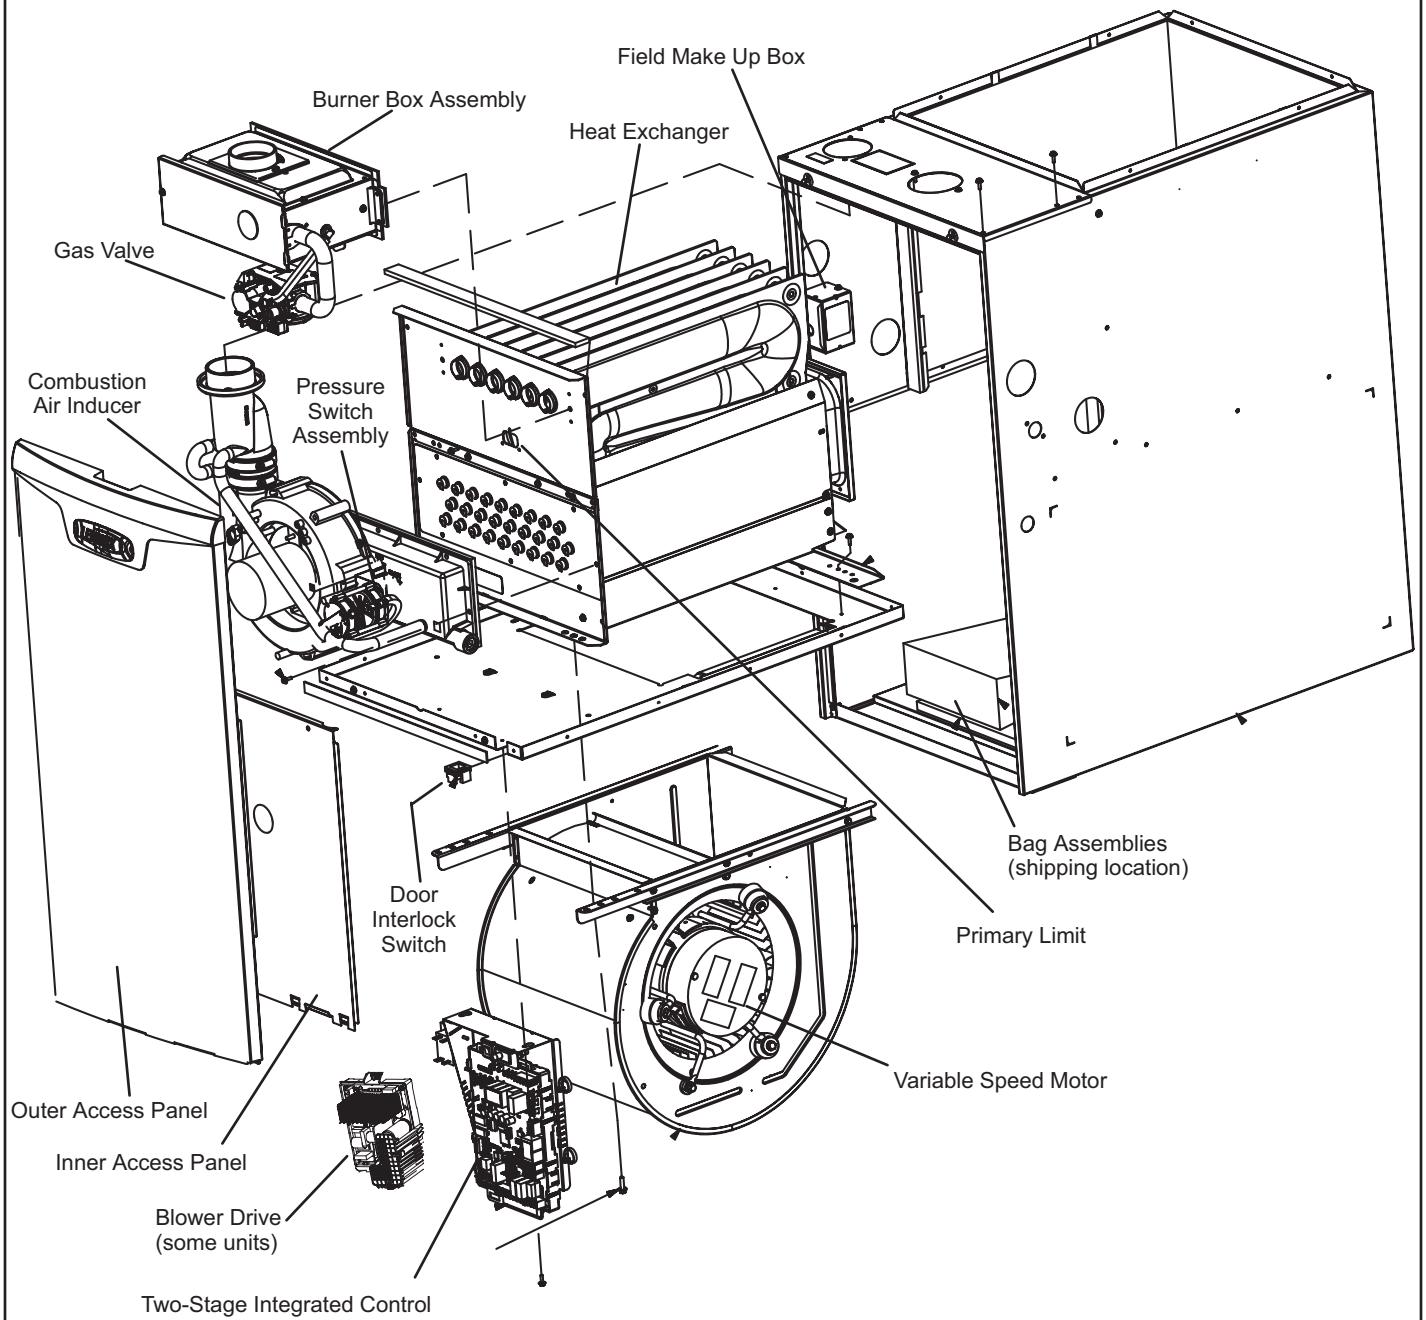
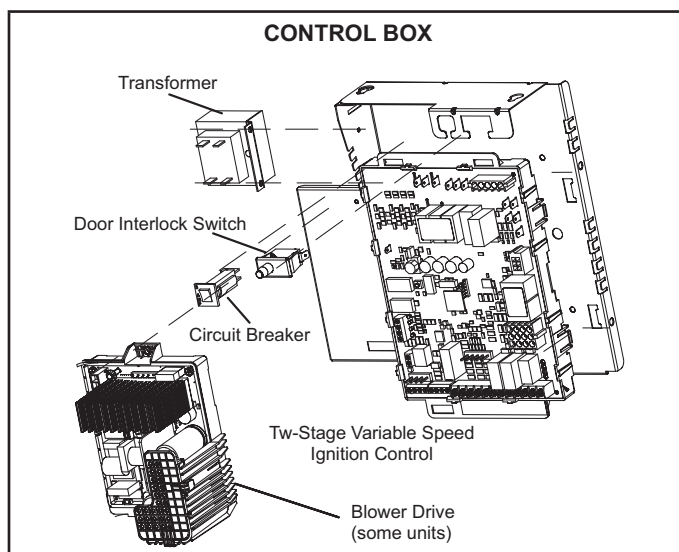

FIGURE 1
FIGURE 2
EL296UHV(X) unit components are shown in FIGURE 1. The gas valve, combustion air inducer and burners can be accessed by removing the access panel. Electrical components are in the control box (FIGURE 2) found in the blower section.